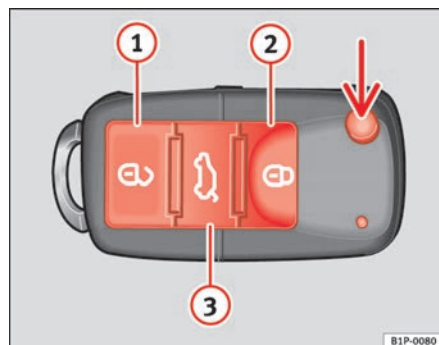

Fig. 64 Assignment of buttons on the remote control key
Using the button   fig. 64 (arrow) on the control, the key shaft is released.
Unlocking the vehicle   fig. 64 (1).
Locking the vehicle   fig. 64 (2).
Unlocking the tailgate. Press the button   fig. 64 (3) until all indicators on the vehicle briefly flash. When the unlocking button  (3) is pressed, 2 minutes remain for opening the door. Once this time has passed, it will lock once more.
Also, the battery indicator on the key  fig. 64, will flash.
When the button   fig. 64 (1) is pressed once, the driver's door is unlocked, all others remain locked.
Press the button   fig. 64 (1) twice to unlock all doors.
- Lock the vehicle using the driver side door lock with the remote control key ⇒ page 100, fig. 64.